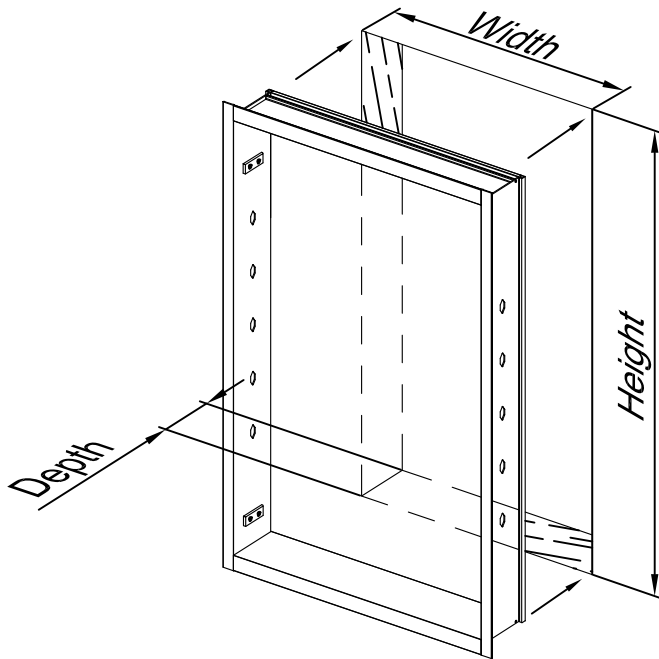
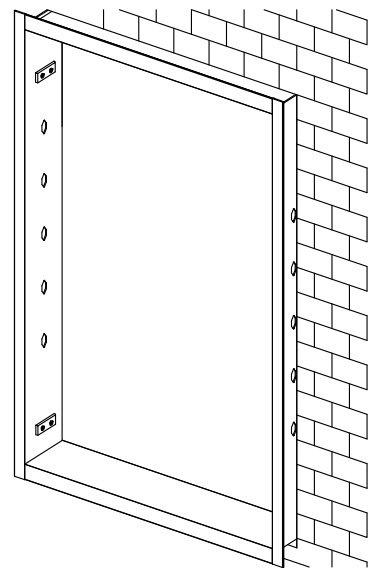

Fig 3
Fig 4
1. Make sure hinges are on correct side of opening for left hand or right hand operation. Place cabinet box into rough opening. On fully recessed applications, make sure cabinet flange covers rough opening evenly all around (Fig 3). On semi-recess applications, mirror edges should meet wall surface. (Fig 4). Shim as needed.